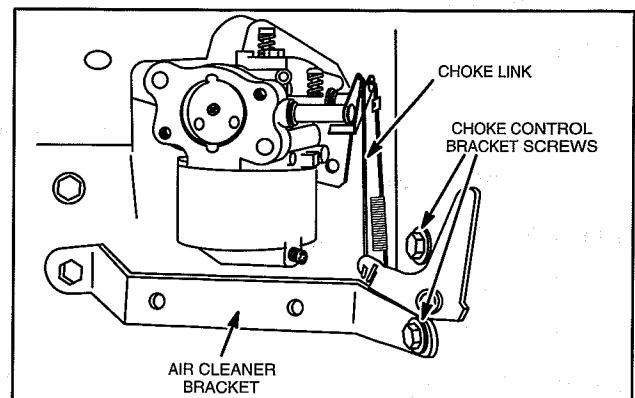

Fig. 3 – Removing Choke Control Bracket
1. Remove two screws and choke control bracket, Fig. 3.
Note: If engine is equipped with anti-afterfire solenoid, air cleaner bracket must be removed before removing carburetor, Fig. 3.